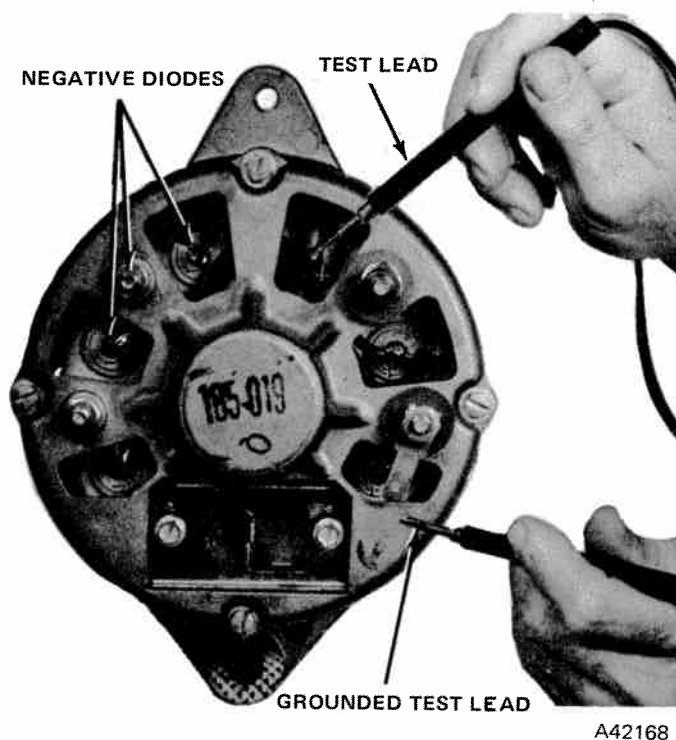

Fig. 3-19 Stator In-Circuit Test
(1) Connect the test lead to diode terminal and ground other test lead (fig. 3-19).
(2) Reverse test probes. The test bulb should light in one direction but not in the other direction.